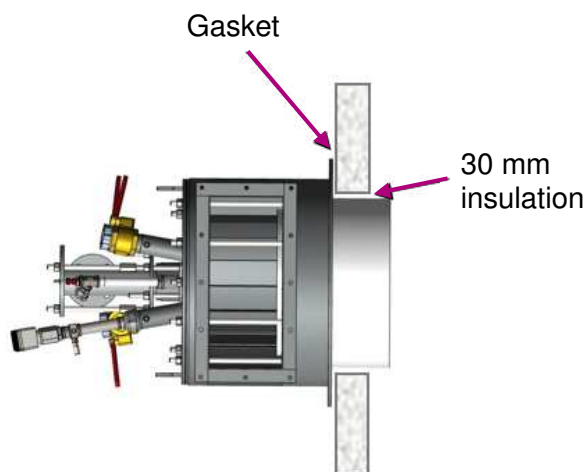

Figure 3.7 – Burner installation on heater
- The opening in the heater wall shall be 60 mm larger in diameter compared to the burner. This allows installing 30mm fibre lining between the burner's combustor and the heater wall. (Figure 3.7)